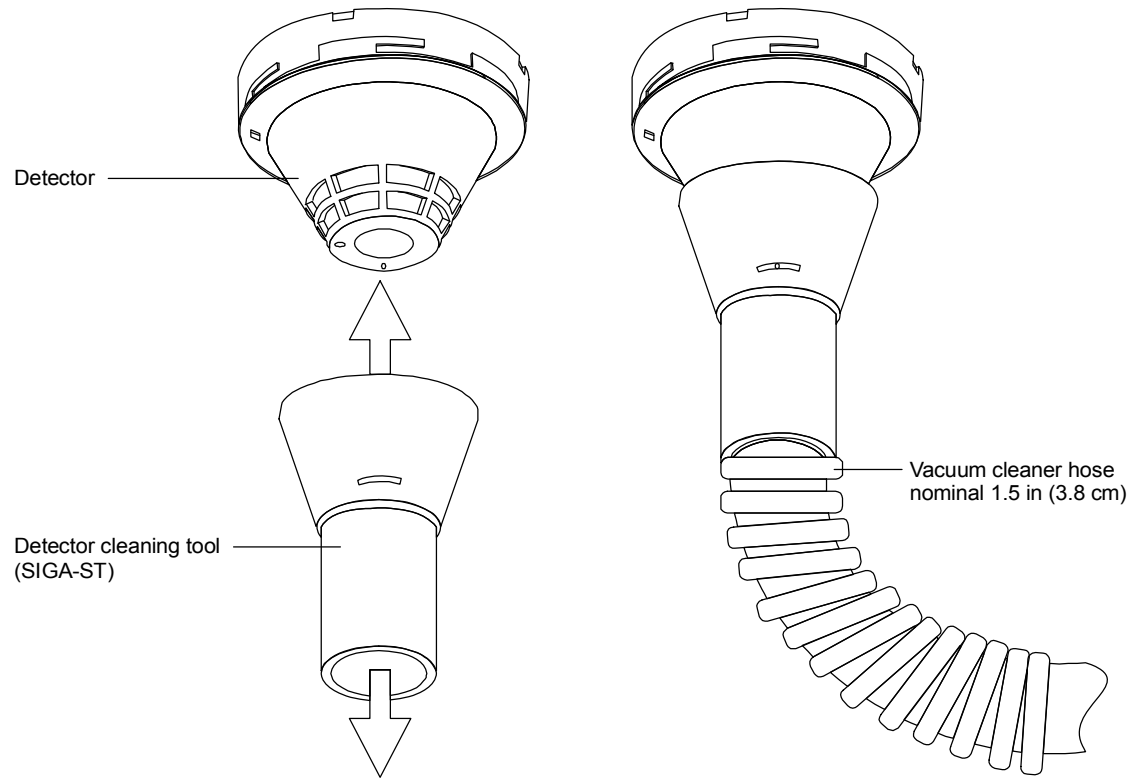

Figure 20: Detector cleaning tool
3. Install the Detector Cleaning Tool on the vacuum hose (Figure 20).